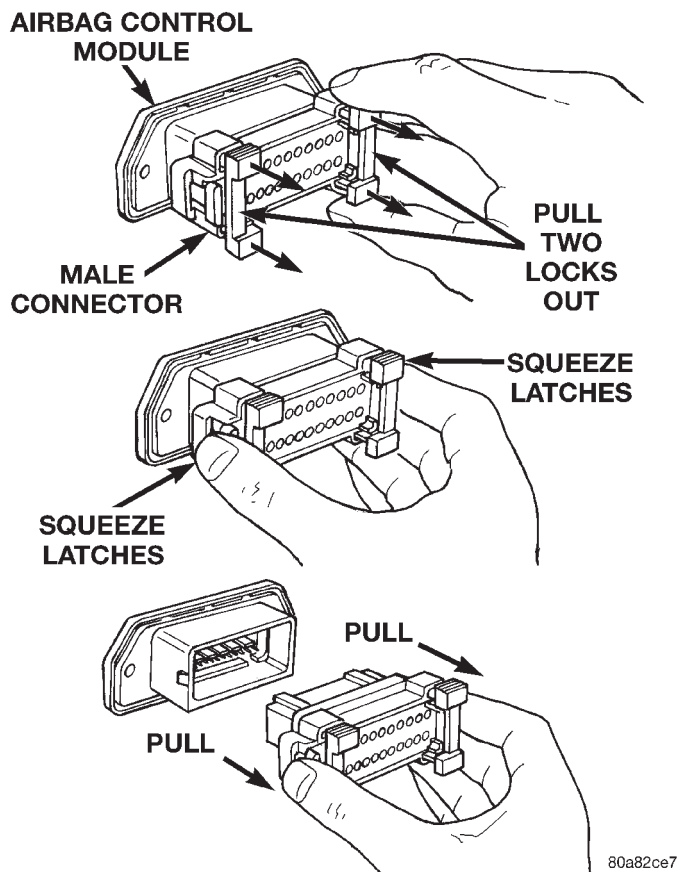

Fig. 17 Airbag Control Module Connector Removal
(5) Slide the ACM and mounting bracket out from under the heater-A/C housing floor duct far enough to access the wire harness connector.
(6) Unplug the ACM wire harness connector. To unplug the wire harness connector from the ACM (Fig. 17):